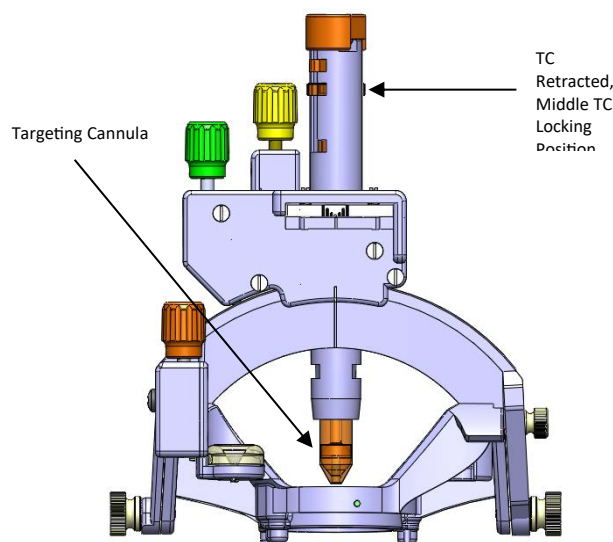

Figure 22: Targeting Cannula positioning
7. Retract the Targeting Cannula to the middle TC locking position. See Figure 22.